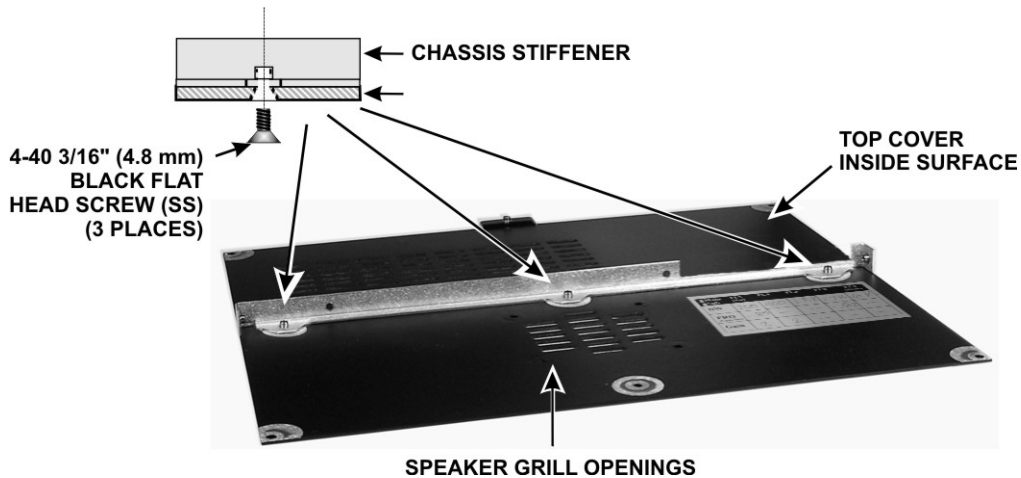

Figure 77. Attaching Chassis Stiffener to Top Cover.
- Mount the chassis stiffening bracket on the underside of the cover as shown in Figure 77. Do not use washers.